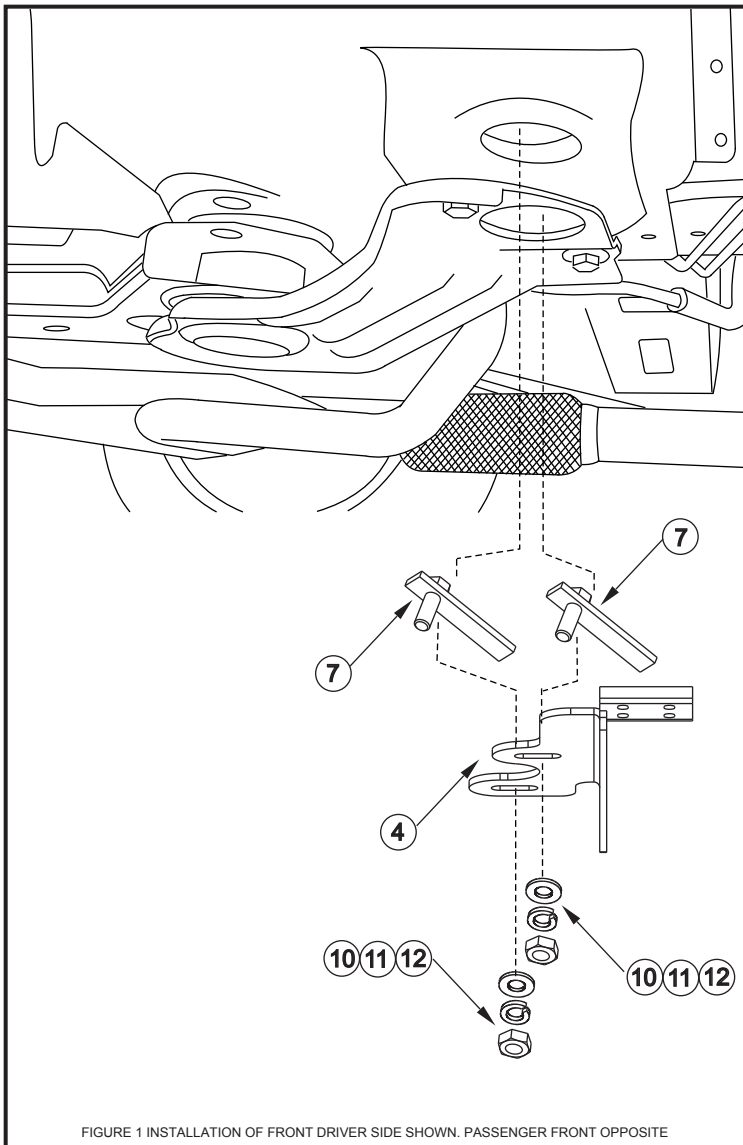

FIGURE 1 INSTALLATION OF FRONT DRIVER SIDE SHOWN. PASSENGER FRONT OPPOSITE
- STEP 3. Attach front driver side bracket using two 1/2" bolt plates, 1/2" flat washers, 1/2" lock washers, and 1/2-13 hex nuts as shown. **SEE FIGURE 1.**